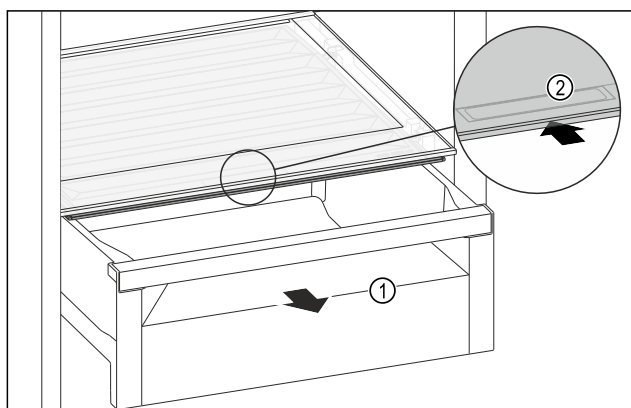

Fig. 97
- ▶ Pull out the drawer Fig. 97 (1).
- ▶ Grasp the recessed grip Fig. 97 (2) on the compartment lid and push the compartment lid backwards at the same time.